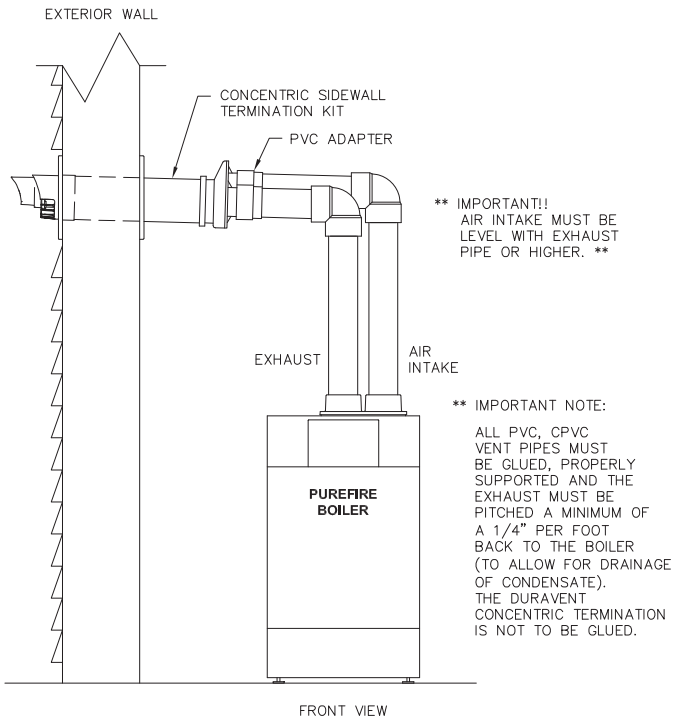

Figure 3.7: Optional Concentric Vent Kit Installation
- d. Figure 3.7 shows an approved sidewall vent configuration using an optional concentric vent termination kit. 3" (54498) or 4" (54499).